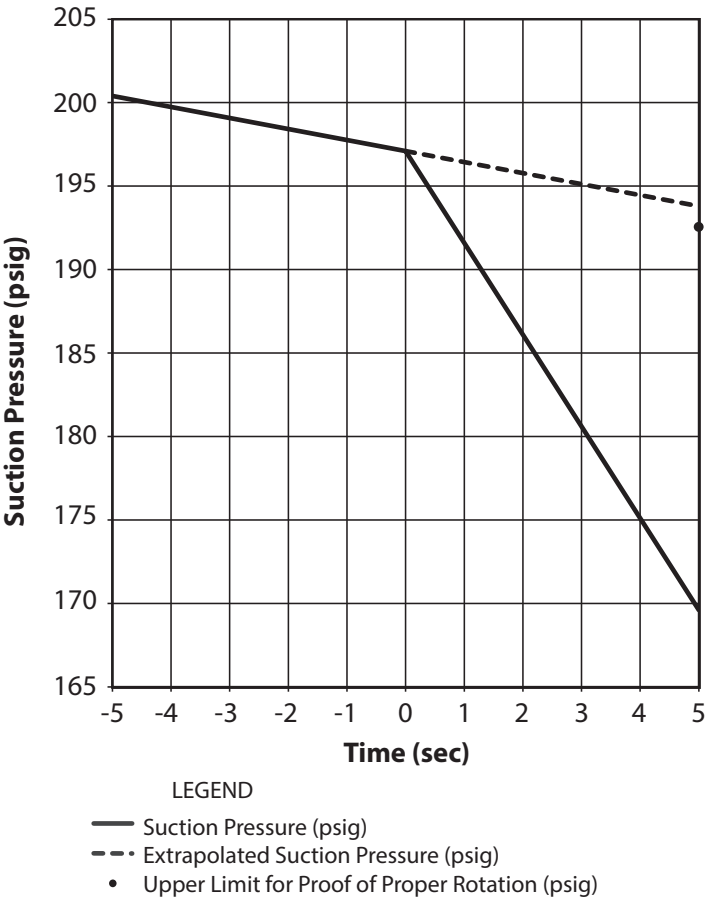

Fig. 166 — Reverse Rotation Detection (psig)
The example below lists sample suction pressures of a starting circuit. Figures 166 and 167 show reverse rotation detection for this example.
Using the rate of change of the suction from the example, five (5) seconds after $t=0$, the suction pressure should be 193.8 psig (1336 kPa), if the compressor did not start. Subtracting the 1.25 psig (8.62 kPa) from extrapolated suction pressure, 192.55 psig (1328 kPa) determines the upper limit that if the suction pressure is above this level the unit will fault on reverse rotation. This point is denoted by a black dot in Fig. 166 and 167. In the example, the suction pressure is lower than the upper limit, and therefore is allowed to continue operation.